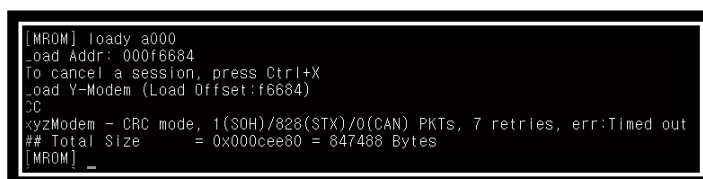

Figure 17: DA14531 Image Prompt on Command Window
1. At the [MROM] prompt, type `loady 392000 1000 bin`. See Figure 17